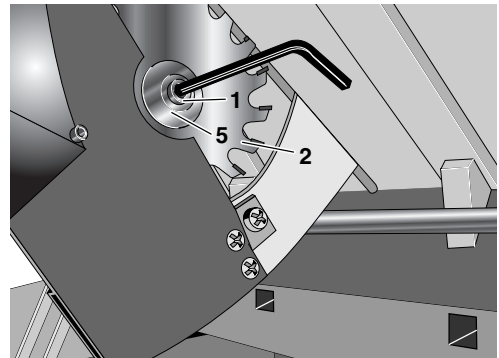
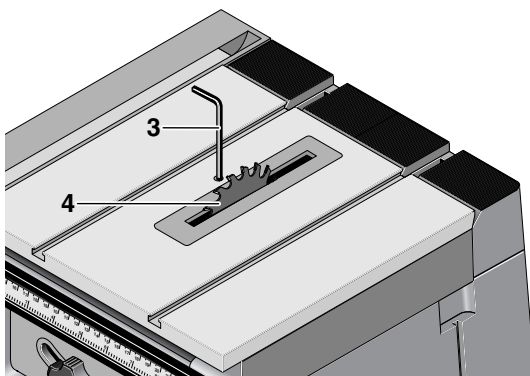

Fig. 16a
Fig. 16b
4. To release the screw 1 (fig 16a), the shaft on which the saw blade 2 is mounted must be blocked. To do so, insert the smaller of the two included Allen keys 3 through the small drill hole 4 in the saw table and from there insert it into the saw blade shaft through a cross-hole, see fig. 16b. If necessary, this drill hole must be „found“ somewhat by turning the saw blade by hand. A hint: For this procedure we recommend you adjust the saw blade to a relatively high height and then to lower it somewhat after finding the latching drill hole with inserted Allen key in order to gain full access to screw 1.